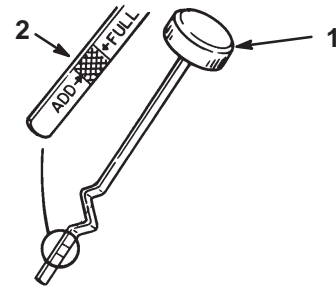

Figure 19
3. Unscrew the oil dipstick and wipe the metal end clean (Fig. 19).